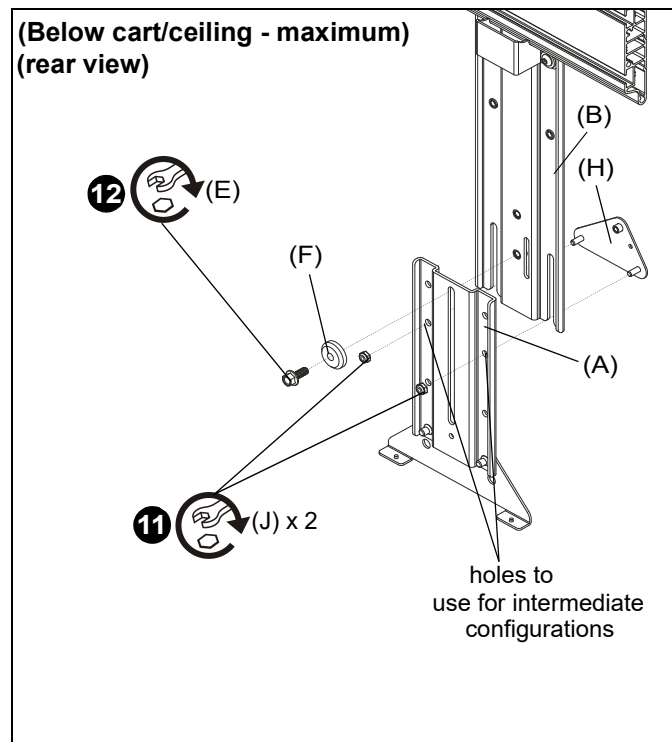

Figure 11
11. (For **maximum/intermediate extension**) Use two #10-24 lock nuts (J) to secure upright bracket (A) to main bracket (B) and adapter plate (H). (See Figure 11)
12. (For **maximum/intermediate extension**) Use 1/4-20 x 5/8" hex head flange bolt (E) and center washer (F) to secure upright bracket (A) to main bracket (B). (See Figure 11)